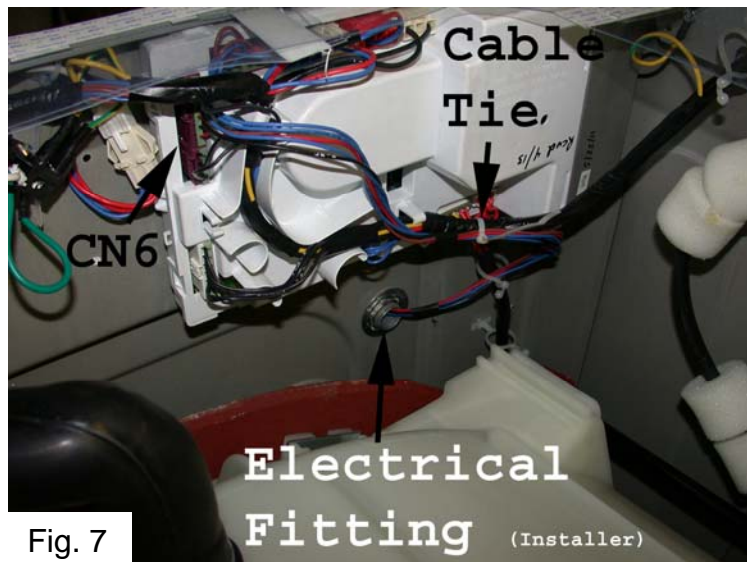

Fig. 7
- Plug the liquid supply harness into connector CN6 located at the top-left vertical edge (viewed from front of machine) of the power module inside the washer (Fig. 7).